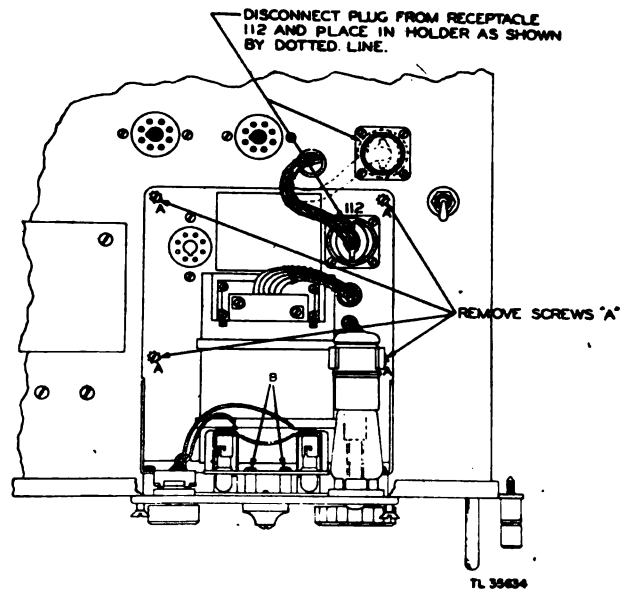

Figure 34. Removal of Remote Indicator I-227-A from Indicator I-221-A.
(1) Disconnect the plug connector from receptacle 112 of the remote indicator and secure the plug in the holder provided in the chassis of Indicator I-221-A (fig. 34).
(2) Remove the four screws A (fig. 34) that secure the remote indicator to the indicator chassis.
(3) Remove the four screws from the front panel of the remote indicator and remove the component through the front of the indicator panel.
(4) Set the remote indicator aside until it is to be installed in the cab of the trailer.
(5) Replace Indicator I-221-A in the top shelf of the rack.